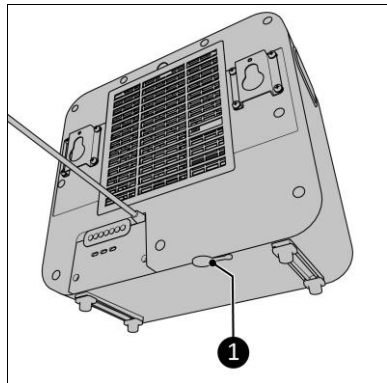

Figure 18
4. The water stop plug on the bottom of the indoor unit needs to be plugged in (Figure 18, pos. 2).